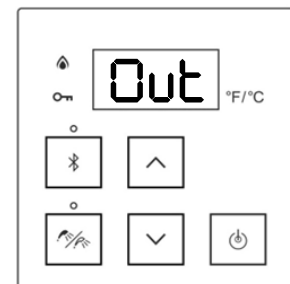

Figure 53:
- 5(B). **If you install the tankless water heater outdoors with the Rinnai Versa-Vent™, outdoor vent cap:** Press the up or down arrow buttons. The controller displays “Out” (Outdoor) (Figure 53).